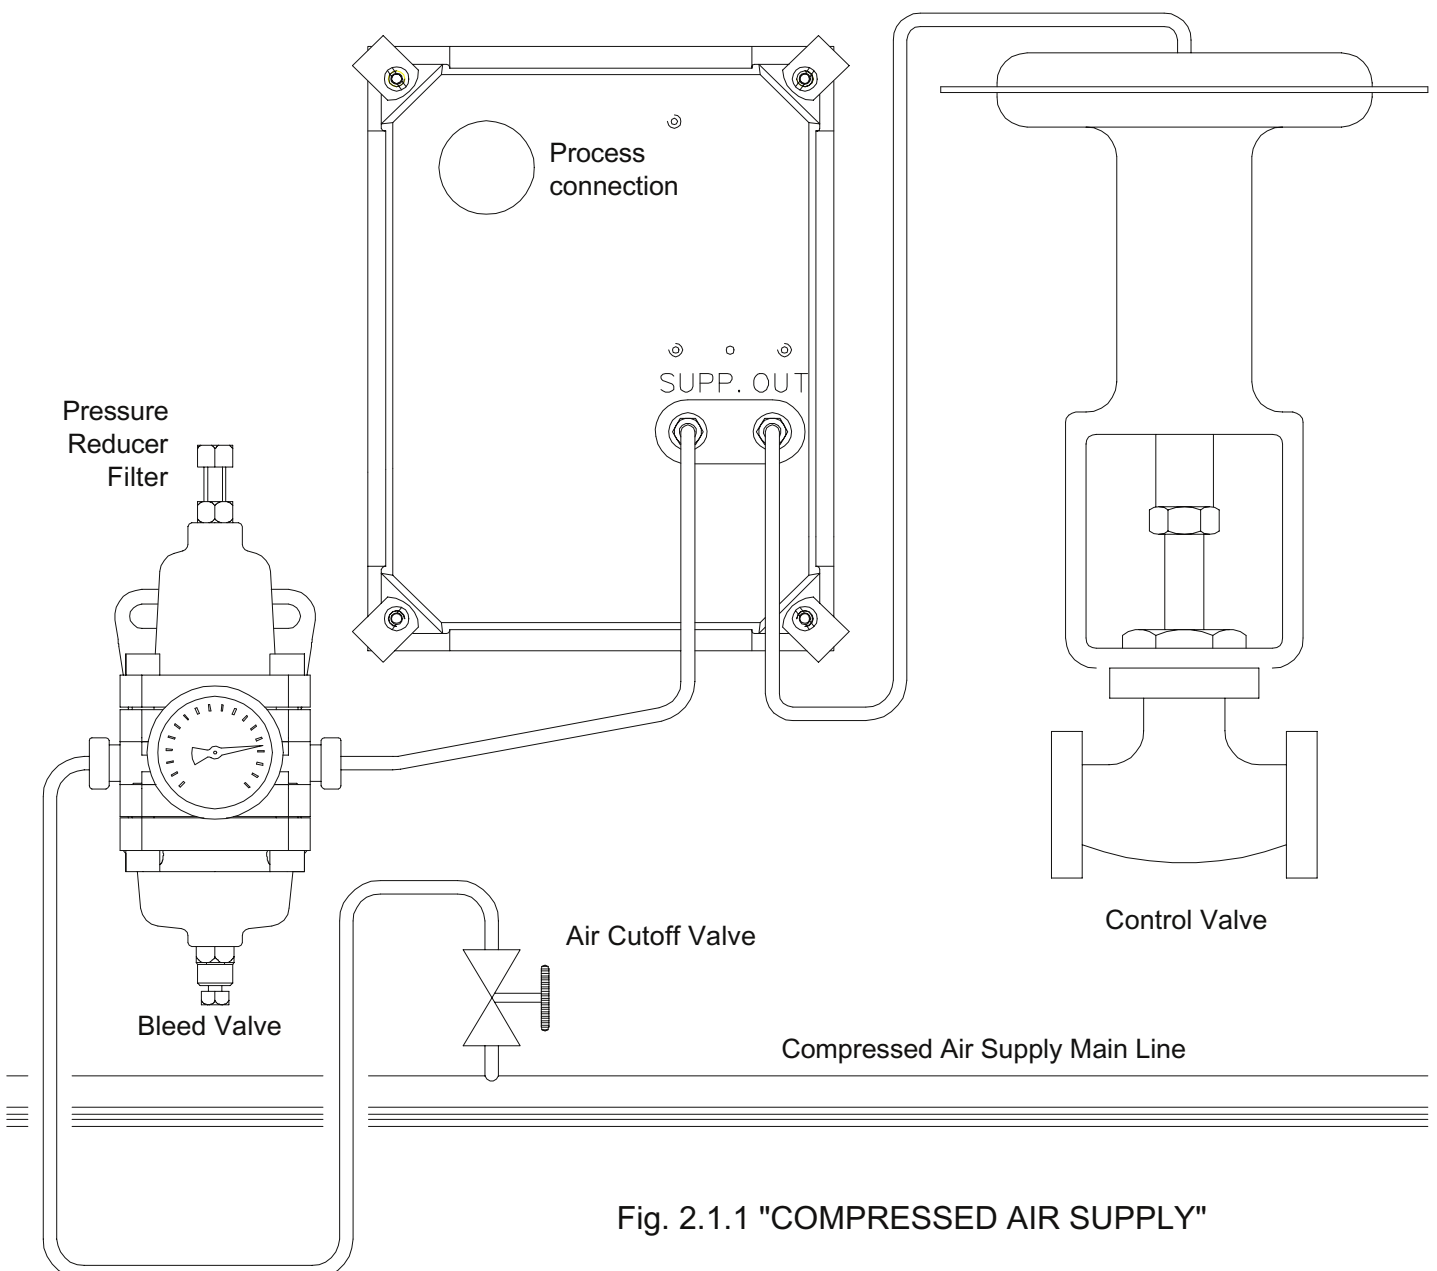
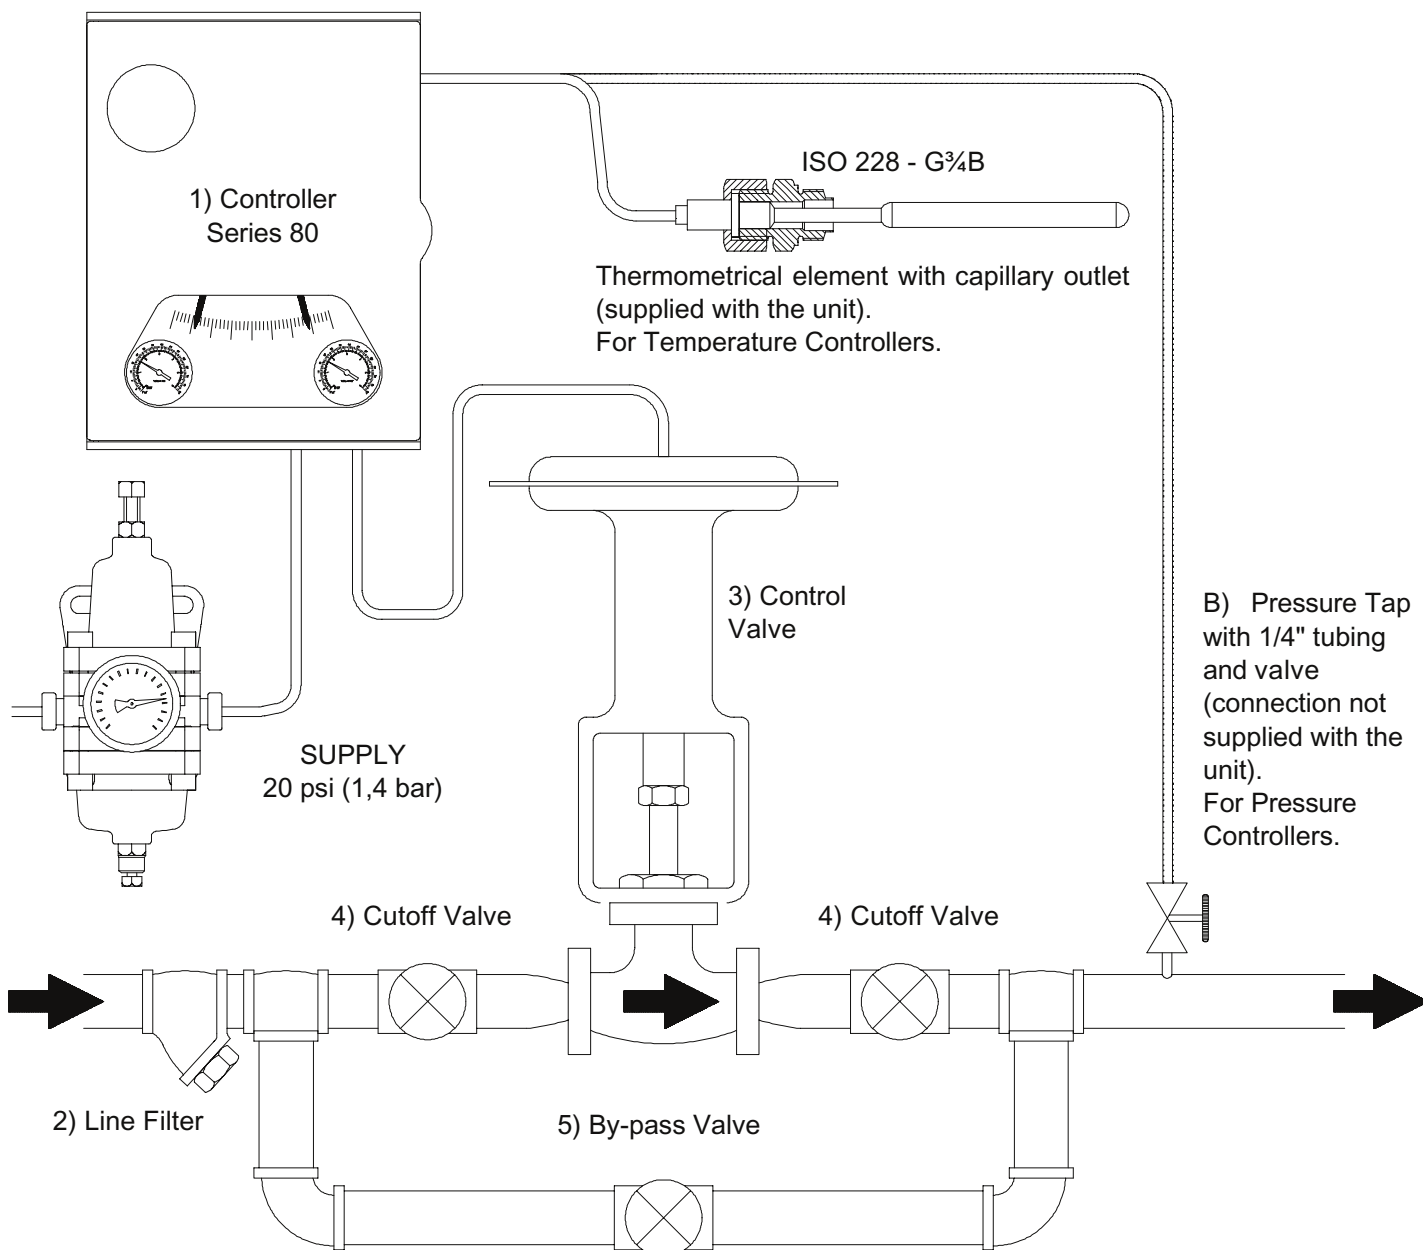

Fig. 2.1.1 "COMPRESSED AIR SUPPLY"
Fig. 2.2.1 "PNEUMATIC CONTROL VALVE INSTALLATION"
### 2.1. COMPRESSED AIR SUPPLY (Fig. 2.1.1)
## 2.2. PNEUMATIC CONTROL VALVE INSTALLATION (Fig. 2.2.1)
**C** - Completely open the cutoff valves situated upstream and downstream to the control valve. Make sure that the bypass valve is closed (see Fig. 2.2.1).
**E** - Turn the selector on automatic (A).
A - Apply a 20 psi air supply ( $\pm 1.5$ ) and open the bleed valve of the pressure reducer filter (see Fig. 2.1.1) until any condensate has been completely discharged.
D - Make sure that the bypass valve (5) supplied with the pneumatic valve (3) is completely closed and that the downstream cutoff valve (4) is fully open (see Fig. 2.2.1).
E - Open the cutoff valve (4) situated upstream to the pneumatic valve slowly and completely (see Fig. 2.2.1).
**A** - Apply a 20 psi air supply ( $\pm 1.5$ ) and open the bleed valve of the pressure reducer filter (see Fig. 2.1.1) until any condensate has been completely discharged.
**B** - Use the set point knob (25) to adjust the red indicator (22) to the set point.
**C** - Rotate the knob (10) to adjust the proportional band to a 20% width and check the selected action of the instrument (DIRECT= the output signal increases as the variable increases; REVERSE= the output signal increases as the variable decreases).
**D** - Make sure that the bypass valve (5) supplied with the pneumatic valve (3) is completely closed and that the downstream cutoff valve (4) is fully open (see Fig. 2.2.1).
**E** - Open the cutoff valve (4) situated upstream to the pneumatic valve slowly and completely (see Fig. 2.2.1).
**H** - The black indicator may not coincide with the red indicator at the setpoint. To eliminate the difference, slightly turn the manual reset knob (14).
**B** - Open the integral action valve by rotating the knob (48) clockwise. Move the red indicator by rotating the set-point knob (25) to set the output signal manometer (21) to 9 psi. Completely close the valve by rotating the knob (48) counterclockwise to the lock.
**C** - Use the set point knob (25) to adjust the red indicator (22) to the setpoint.
**D** - Rotate the knob (10) to adjust the proportional band to a 20% width and check the selected action of the instrument (DIRECT= the output signal increases as the variable increases; REVERSE= the output signal increases as the variable decreases).
**E** - Make sure that the bypass valve (5) supplied with the pneumatic valve (3) is completely closed and that the downstream cutoff valve (4) is fully open (see Fig. 2.2.1).
**F** - Open the cutoff valve (4) situated upstream to the pneumatic valve slowly and completely (see Fig. 2.2.1).
**I** - The black indicator may not coincide with the red indicator at the setpoint. To eliminate the difference, gradually open the integral action valve until the indicators coincide and initiate a deliberate disruption by rapidly moving the red indicator from the setpoint. If the black indicator starts fluctuating, slowly close the valve (48) until stability is restored and the indicators coincide. Initiate a new disruption and check the fluctuation of the black indicator. Turn the knob (48) again, if necessary.
**A** - Open the derivative action valve by rotating clockwise the knob (53) to the lock.
**B** - Apply a 20 psi air supply ( $\pm 1.5$ ) and open the bleed valve of the pressure reducer filter (see Fig. 2.1.1) until any condensate has been completely discharged.
**C** - Open the integral action valve by rotating the knob (48) clockwise. Move the red indicator (22) by rotating the set-point knob (25) to adjust the output signal manometer (21) to 9 psi. Completely close the valve by rotating counterclockwise the knob (48) to the lock.
**D** - Use the set point knob (25) to adjust the red indicator (22) to the setpoint.
**E** - Rotate the knob (10) to adjust the proportional band to a 20% width and check the selected action of the instrument (DIRECT= the output signal increases as the variable increases; REVERSE= the output signal increases as the variable decreases).
**F** - Make sure that the bypass valve (5) supplied with the pneumatic valve (3) is completely closed and that the downstream cutoff valve (4) is fully open (see Fig. 2.2.1).
**G** - Open the cutoff valve (4) situated upstream to the pneumatic valve slowly and completely (see Fig. 2.2.1).
**L** - The black indicator may not coincide with the red indicator at the setpoint. To eliminate the difference, gradually open the valve (48) until the indicators coincide and initiate a deliberate disruption by rapidly moving the red indicator from the setpoint. If the black indicator starts fluctuating, slowly close the valve by turning the knob (48) until stability is restored and the indicators coincide. Initiate a new disruption and check the fluctuation of the black indicator: if necessary, adjust the valve again by turning the knob (48). Performe the adjustment one more time. If, during the adjustment, the manometer (21) indicates values inferior to 4 psi or superior to 12 psi, gradually close the derivative action valve by rotating the knob (53) until the reading of the manometer during the adjustment operation is 4÷12 psi.